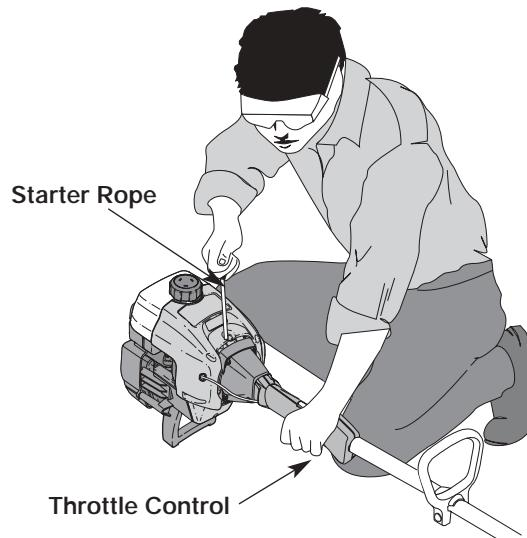

Figure 8
WARNING: Avoid accidental starting. Make sure you are in the starting position when pulling the starter rope. See Figure 8. To avoid serious injury, the operator and unit must be in a stable position while starting.
5. With the unit in the starting position (see Figure 8), squeeze the throttle control to the wide open (full throttle) position. Pull the starter rope briskly 5 times while still in the **FULL** choke (A $\text{---}|\text{---}$) position. If the engine attempts to run before the fifth pull, proceed to step 6.
7. Pull starter rope 1 to 3 times, briskly, to start the engine. See Figure 8.
1. Release your hand from the throttle control. See Figure 8. Allow the engine to cool down by idling.